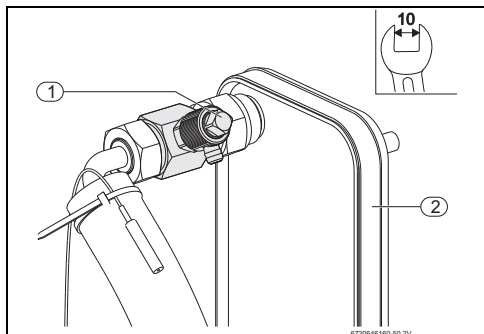

Fig. 16 Purge valve
- Rotate the gray head (Fig. 16, [3]) of the purge valve clockwise (tightening) to adjust it.
- With the cold water inlet open and the hot water taps closed, open the purge valve (at least one complete rotation, Fig. 16 [1]) until water drops out through the purge valve outlet.
- ▶ Open purge valve (at least one complete rotation, Fig. 16, [1]) until water drops out through the purge valve outlet. Ensure that water drains correctly.